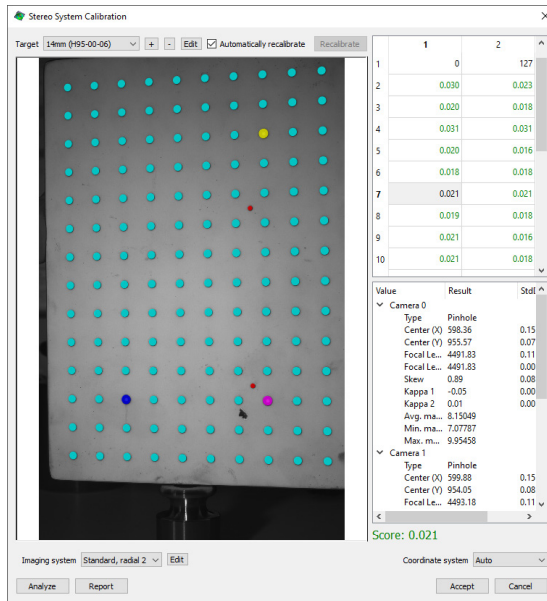

Figure 8: Calibration dialog window
- Calibration reported by the VIC-3D (EDU) software, including two screenshots similar to the following, if not already in the report. The project files on right should contain camera parameters for both camera 1 and camera 2, as well as the transformations. Examples are shown below in Figures 8 & 9 for your use.